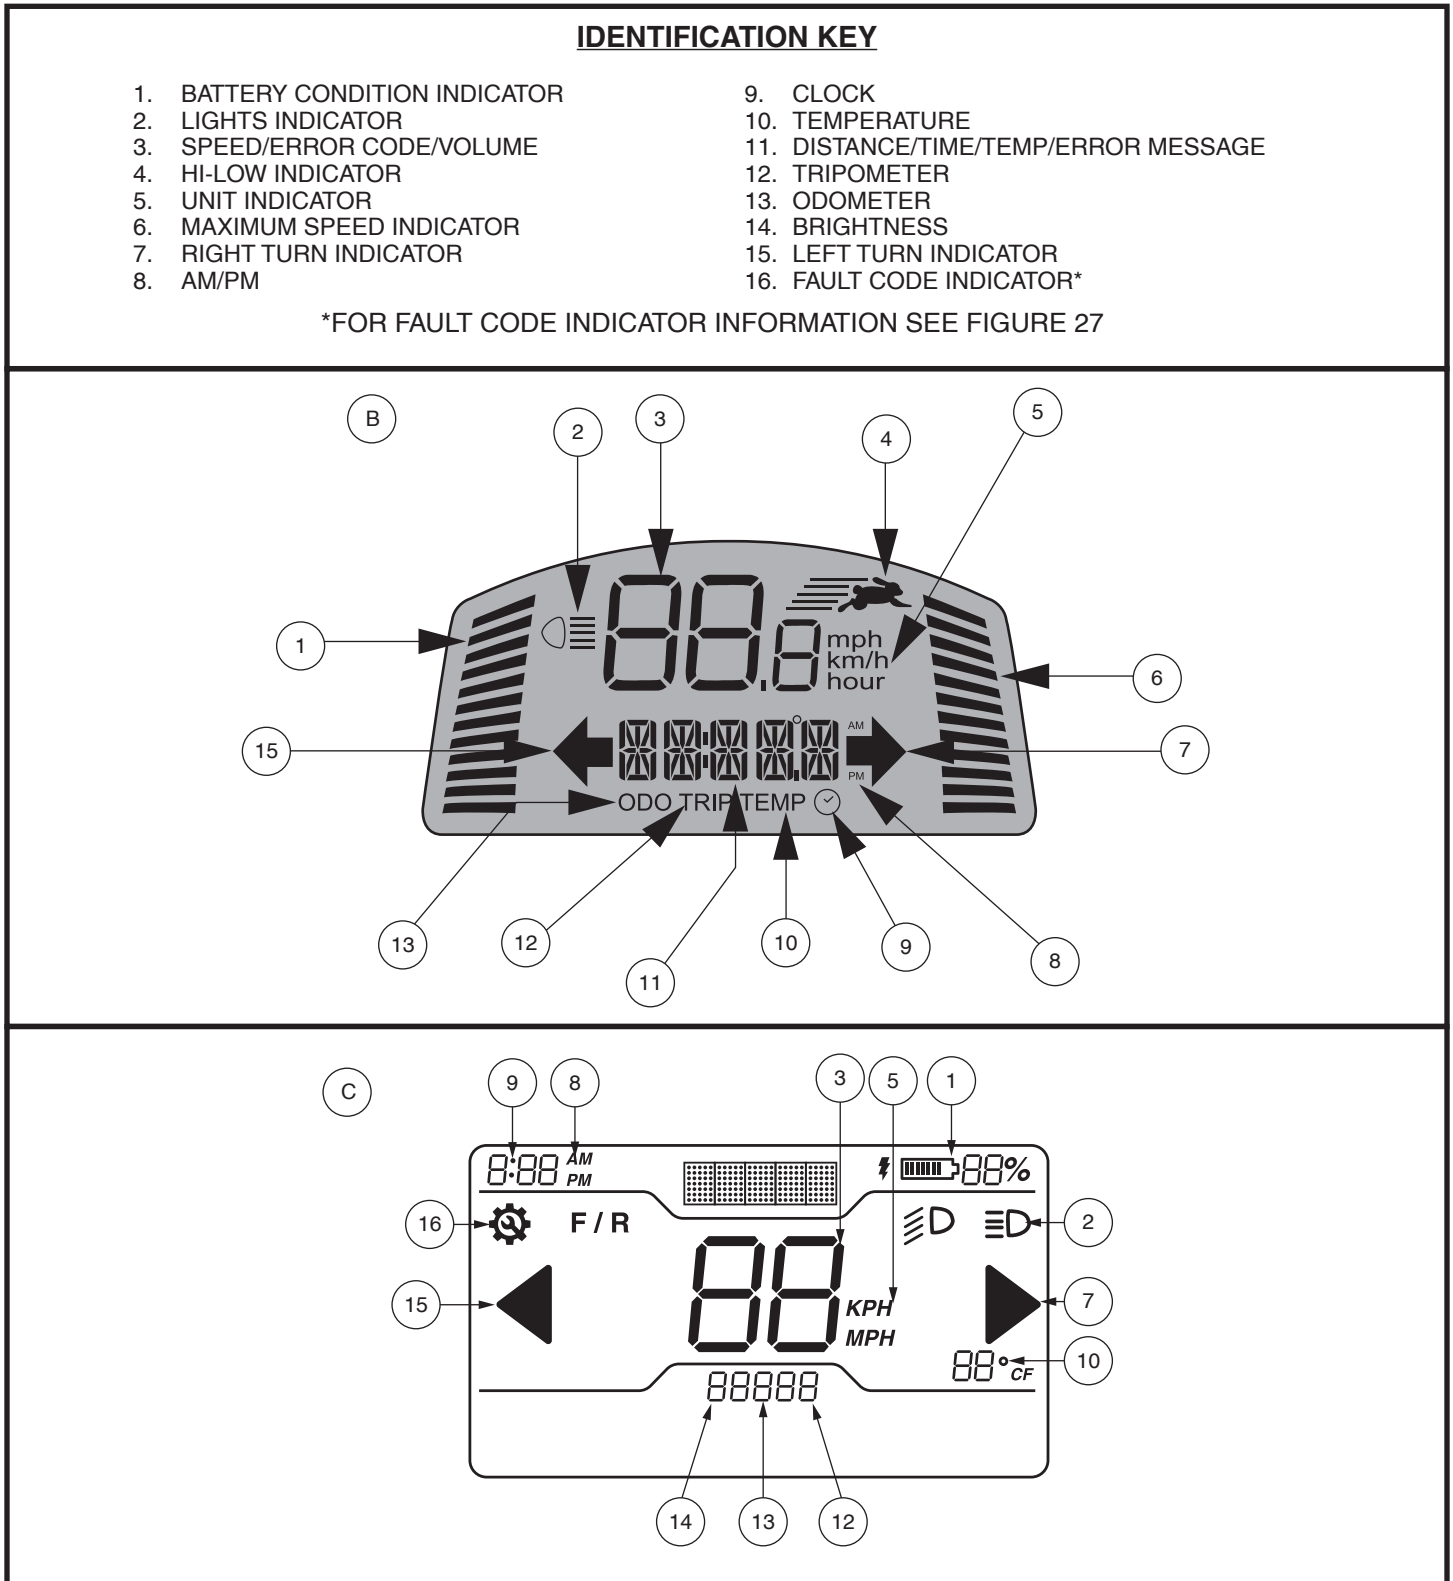

Figure 5. LCD Screen - Console Style B (Top) and Console Style C (Bottom)
*NOTE: The turn signals are timed to shut off after 15 seconds. A warning beep will sound as long as the turn signal is on. See figure 5 for volume control.*
- Press the High-Low button once to set the speed adjustment to High. The High-Low indicator will display on the LCD screen. **See figure 5.** Using this setting in conjunction with the speed adjustment buttons will allow the scooter to achieve speeds up to the maximum preprogrammed speed for the scooter.
These adjustment buttons enable you to pre-select and limit your scooter's speed. This is indicated by the maximum speed indicator on the LCD screen. **See figure 5.**
*NOTE: The more bars shown on the maximum speed indicator, the faster your pre-selected maximum speed will be. See figure 5.*
The LCD control panel offers easily intuited feedback information via the LCD screen. See figure 5. The LCD screen may also be used during the set-up (activation) of the various control panel settings. See chart 1.
\*\*FOR LCD SCREEN INFORMATION SEE FIGURE 5.